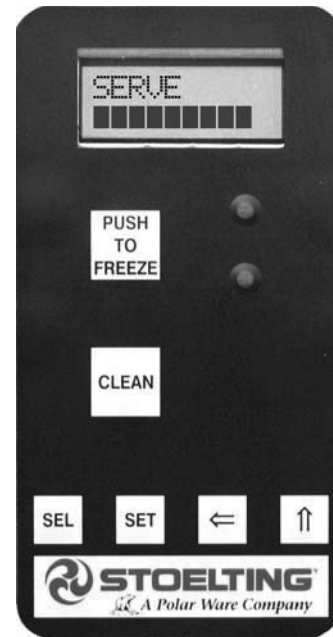

Figure 3-7 During Freezing Cycle
- G. When the product is at 75% consistency, the display reads "SERVE" (Fig. 3-7). Open the spigot to dispense product.